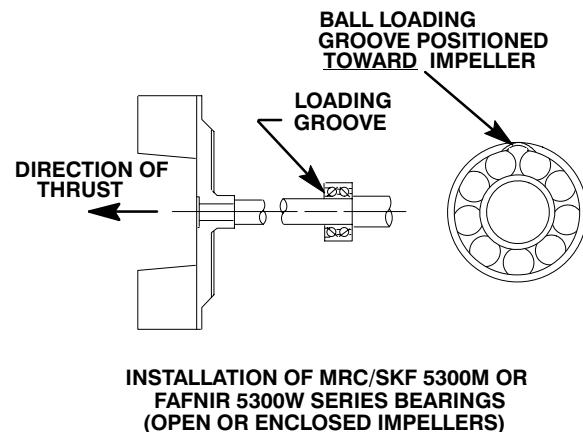

Figure 4. Inboard Bearing Positioning
Position the inboard bearing (52) on the shaft as indicated in Figure 4.